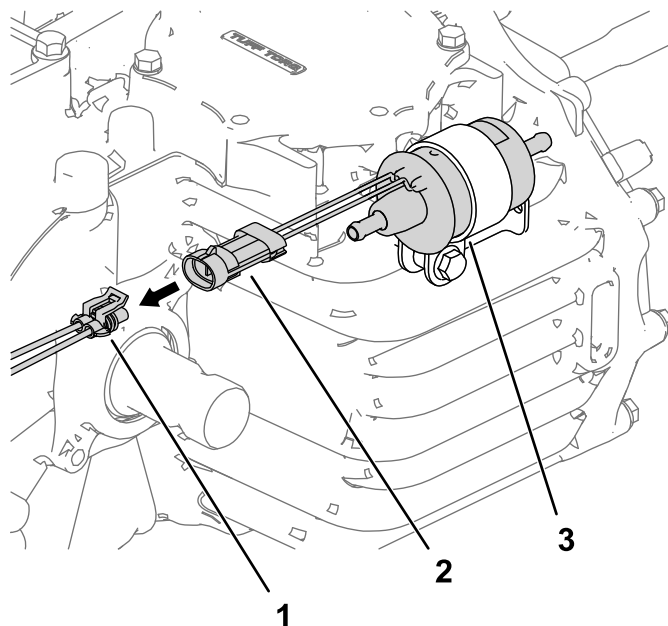

Figure 18
1. Remove the existing wire harness connection from the fuel pump (Figure 18).